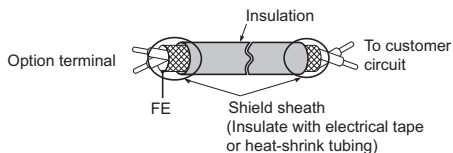

Figure 14 Prepare Ends of Shielded Cable
4. Prepare the wire ends as shown in **Figure 14**.